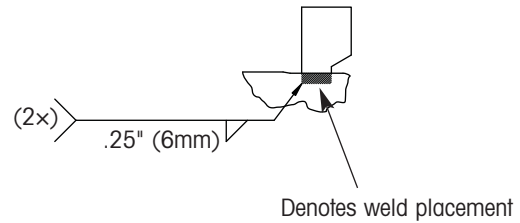

Figure 4. Welding details
7. When ABS block location and sensor clearance are verified, weld the ABS block to the axle with a 1/4-inch (6mm) fillet weld. Refer to figure 4 for weld placement.